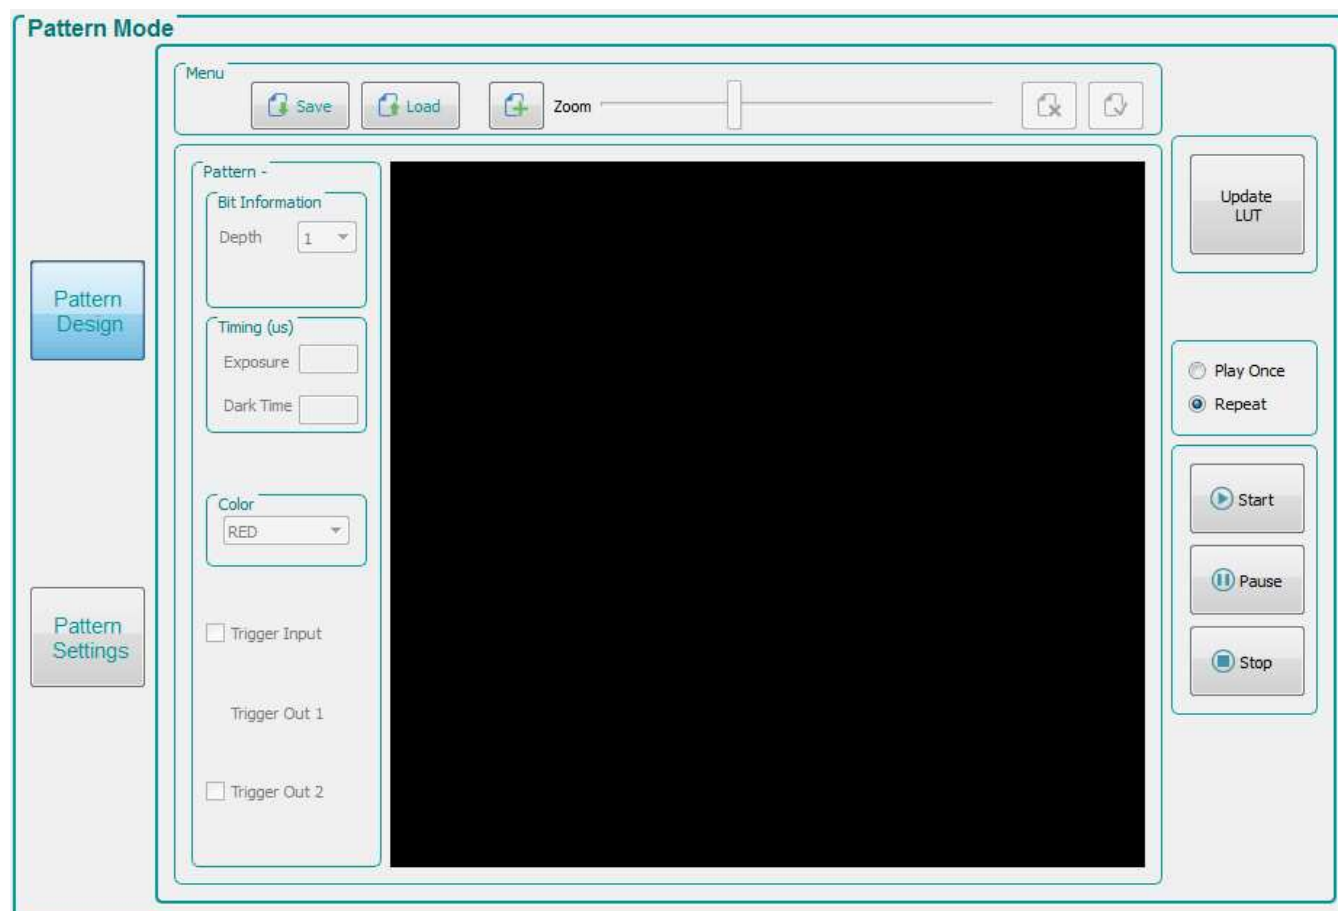

Figure 3-4. Pattern Mode Design Panel
Click the *Pattern Mode* button at the top of the GUI to display the *Pattern Mode* panel as shown in Figure 3-4.
2. Select *Pattern On-The-Fly Mode* from the *Operating Mode* group box, and then click the *Pattern Design* button so that the large black panel is displayed as shown in Figure 3-4.
4. Select *Video Pattern Mode* from the *Operating Mode* group box, and then click the *Pattern Design* button so that the large black panel is displayed as shown in Figure 3-4.
2. Select *Pattern On-The-Fly Mode* from the *Operating Mode* group box, and then select the *Pattern Design* button so that the large black panel is displayed as shown in Figure 3-4.